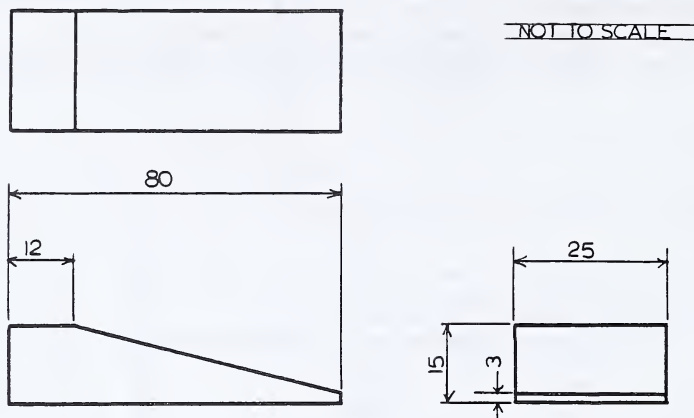

Figure 2: WEDGE
1. In Figure 2, the slanted top of the wedge results in a visible edge line 3 mm from the bottom in the right side view. If the left side view had been drawn, would this line be drawn as a visible edge or as a hidden edge?